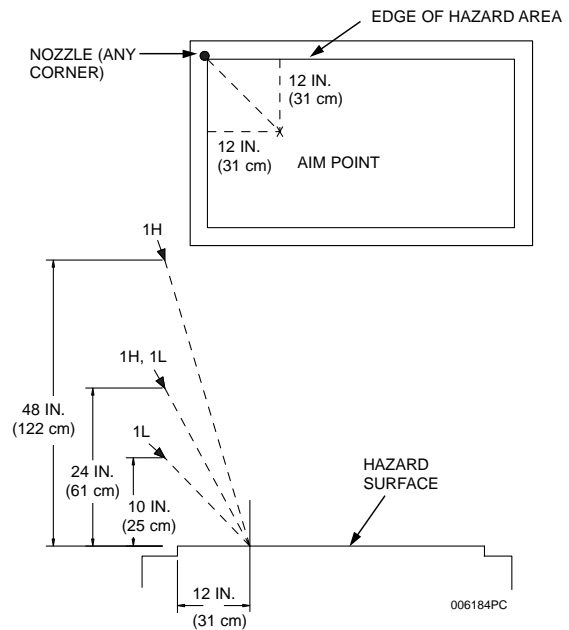

Figure 3-8
The 1H nozzle, Part No. 551029, is used for high proximity griddle protection. This nozzle is a one (1) flow nozzle. The nozzle must be located **above any corner** of the hazard surface, 24 in. to 48 in. (61 to 122 cm) above the cooking surface of the appliance and aimed at a point 12 in. (31 cm) over and 12 in. (31 cm) in from the corner below the nozzle. See **Figure 3-8**.
The 1L nozzle, Part No. 551026, is used for low proximity griddle protection. This nozzle is a one (1) flow nozzle. The nozzle must be located **above any corner** of the hazard surface, 10 in. to 24 in. (25 to 61 cm) above the cooking surface of the appliance and aimed at a point 12 in. (31 cm) over and 12 in. (31 cm) in from the corner below the nozzle. See **Figure 3-8**.